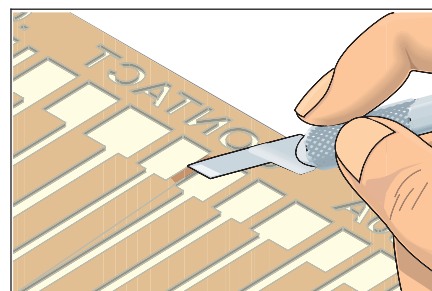

Figure 3 Scrape off adhesive bonding film from solder joint area.
9. Before trimming out the new edge contact carefully scrape off the adhesive film from the solder joint connection area on the back of the new edge contact. (See Figure 3.)